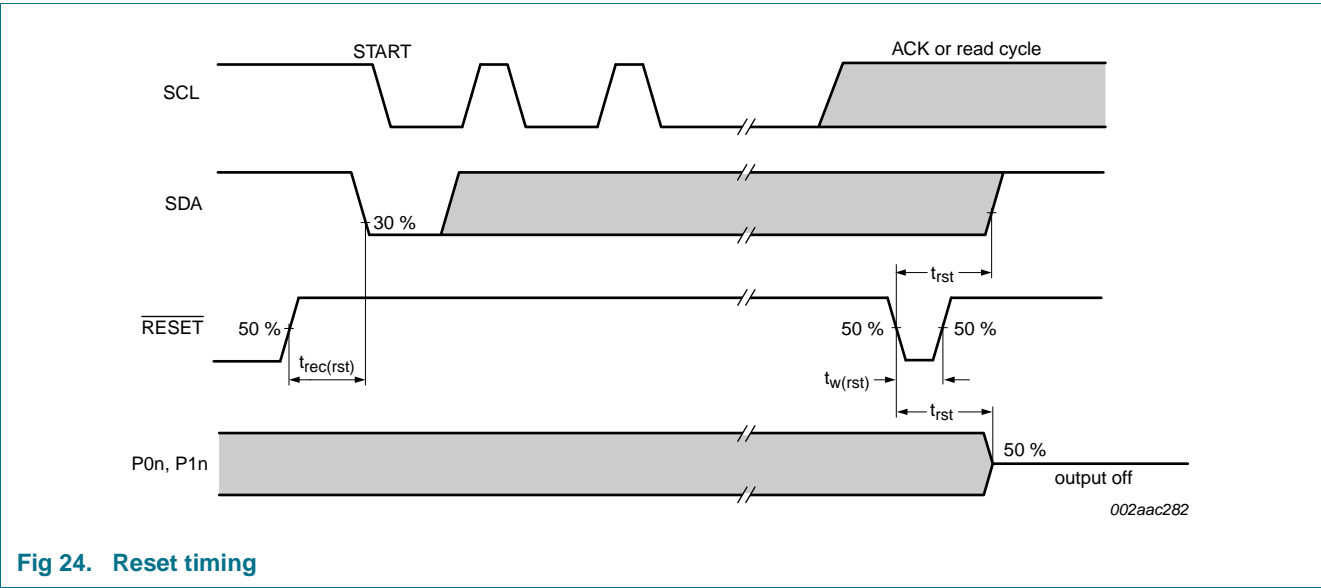

Fig 24. Reset timing
**Reset timing (see Figure 24)**